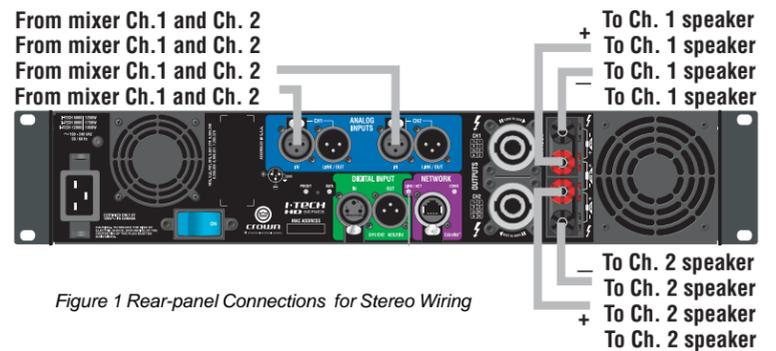
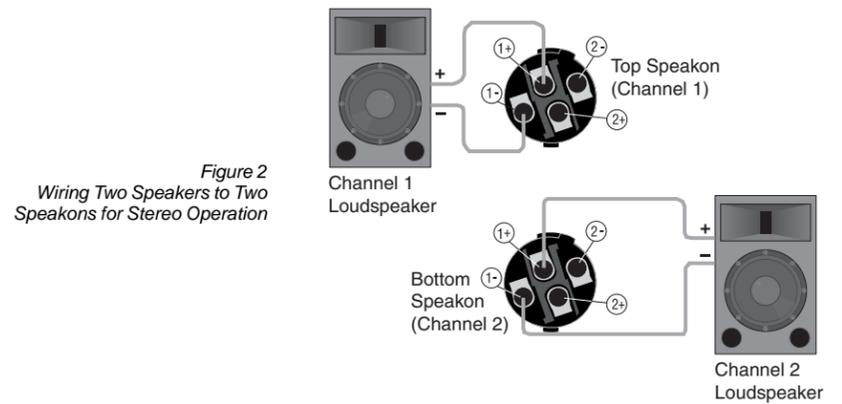

Figure 1 Rear-panel Connections for Stereo Wiring
Figure 2 Wiring Two Speakers to Two Speakons for Stereo Operation
2. See Figure 1. Connect two cables from your mixer output to the amplifier's XLR input connectors.
3. Using Class 2 wiring, connect speaker cables either to the amplifier's Speakon® connectors (as in Figure 2) or to the binding posts (as in Figure 1.)